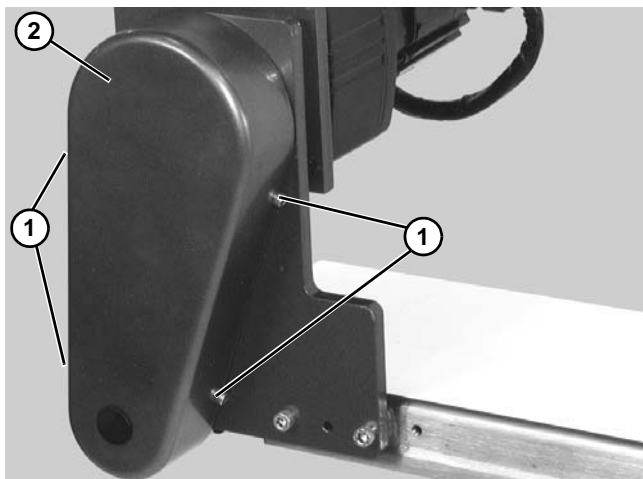

Figure 25
1. Remove four screws (**Figure 25, item 1**) and remove cover (**Figure 25, item 2**).